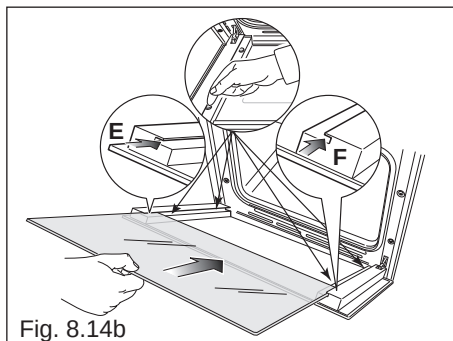
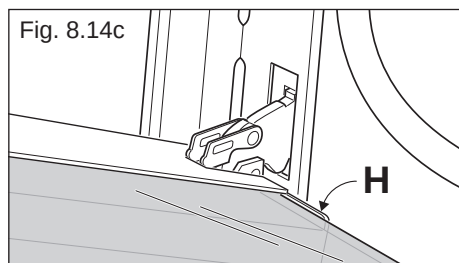

Fig. 8.14b
Fig. 8.14c
IMPORTANT: It is advisable, while refitting the glass, to keep pressed in position the four rubber pads "D", by a finger, to avoid breakage or slippage of the rubber pads themselves (fig. 8.14b).
- Insert the pane in the left "E" and right "F" slide guides (fig. 8.14b), and gently slide it to the retainers "H" (fig. 8.14c).